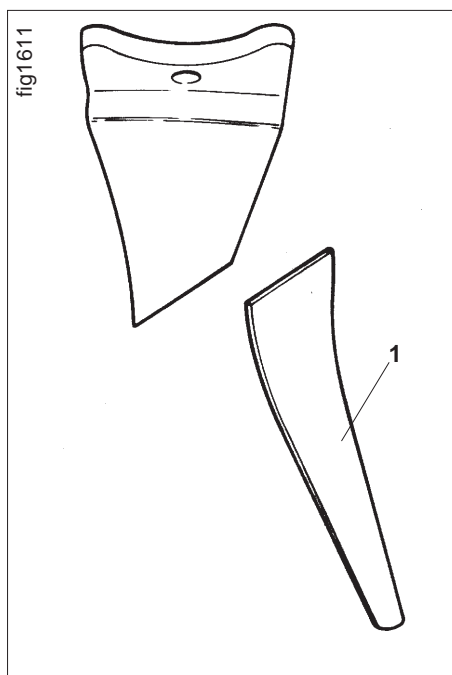
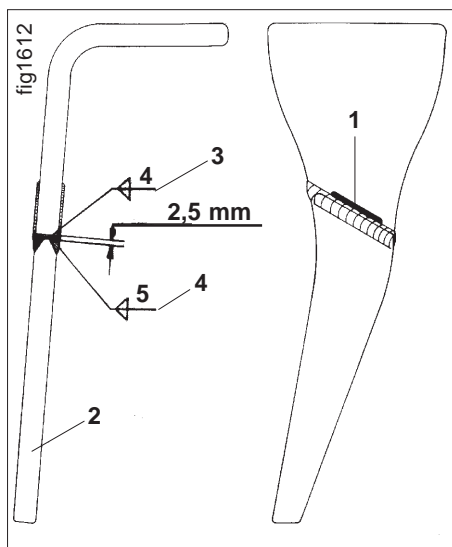

Fig. 19.11
Fig. 19.12
With increasing wear, the rotary cultivator tines can be brought back to the original length using welding tips (Fig. 19.11/1). First remove the tines from the rotor according to para. 19.5.1.
- Hold the tip to be welded (Fig. 19.11/1) to the old tine and make a separation mark (Fig. 19.12/1)
- Separate the old tine at the mark (Fig. 19.12/1).
- Attach the tip to be welded (Fig. 19.12/2) to the tine stump, solder with root of the seam (Fig. 19.12/3) and let the tine cool.
- After the covering layer welding (Fig. 19.12/4) the tine is again ready for use.